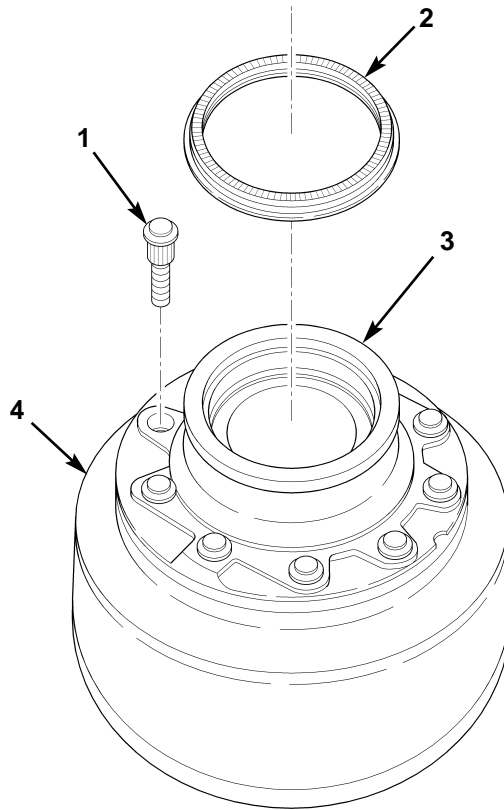

Figure 3. Installing Bearing Cones, Wheel Studs, and Rear Tone Ring.
7. Repeat step 6 to remove remaining wheel studs (figure 3, item 8) as necessary.
2. Position rear hub (figure 3, item 3) facing down on rear brake drum (figure 3, item 4) with wheel stud holes aligned.
3. Install new wheel studs (figure 3, item 1) on rear hub (figure 3, item 3) as required.
4. Install rear tone ring (figure 3, item 2) on rear hub (figure 3, item 3). Refer to WP 0021.